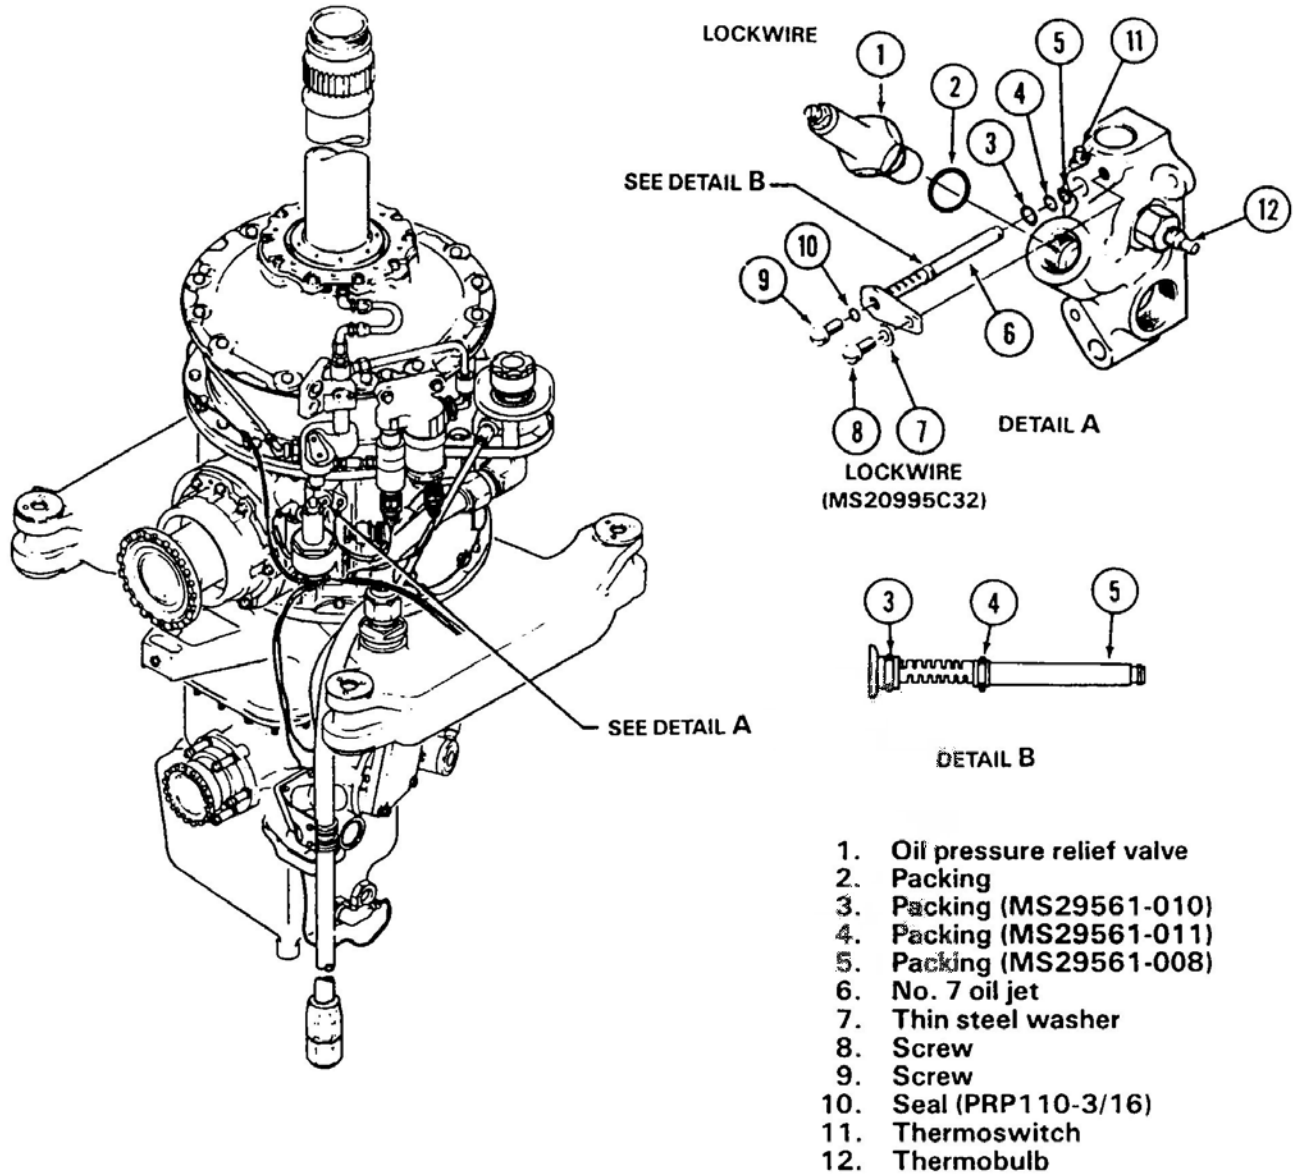

Figure 63-33. Transmission Oil Jet No. 7
63.5.17.1.1 Remove valve (1, Figure 63-33) with packing (2). Discard packing.
63.5.17.5.1 Install screw (9, Figure 63-33) with new seal (10).